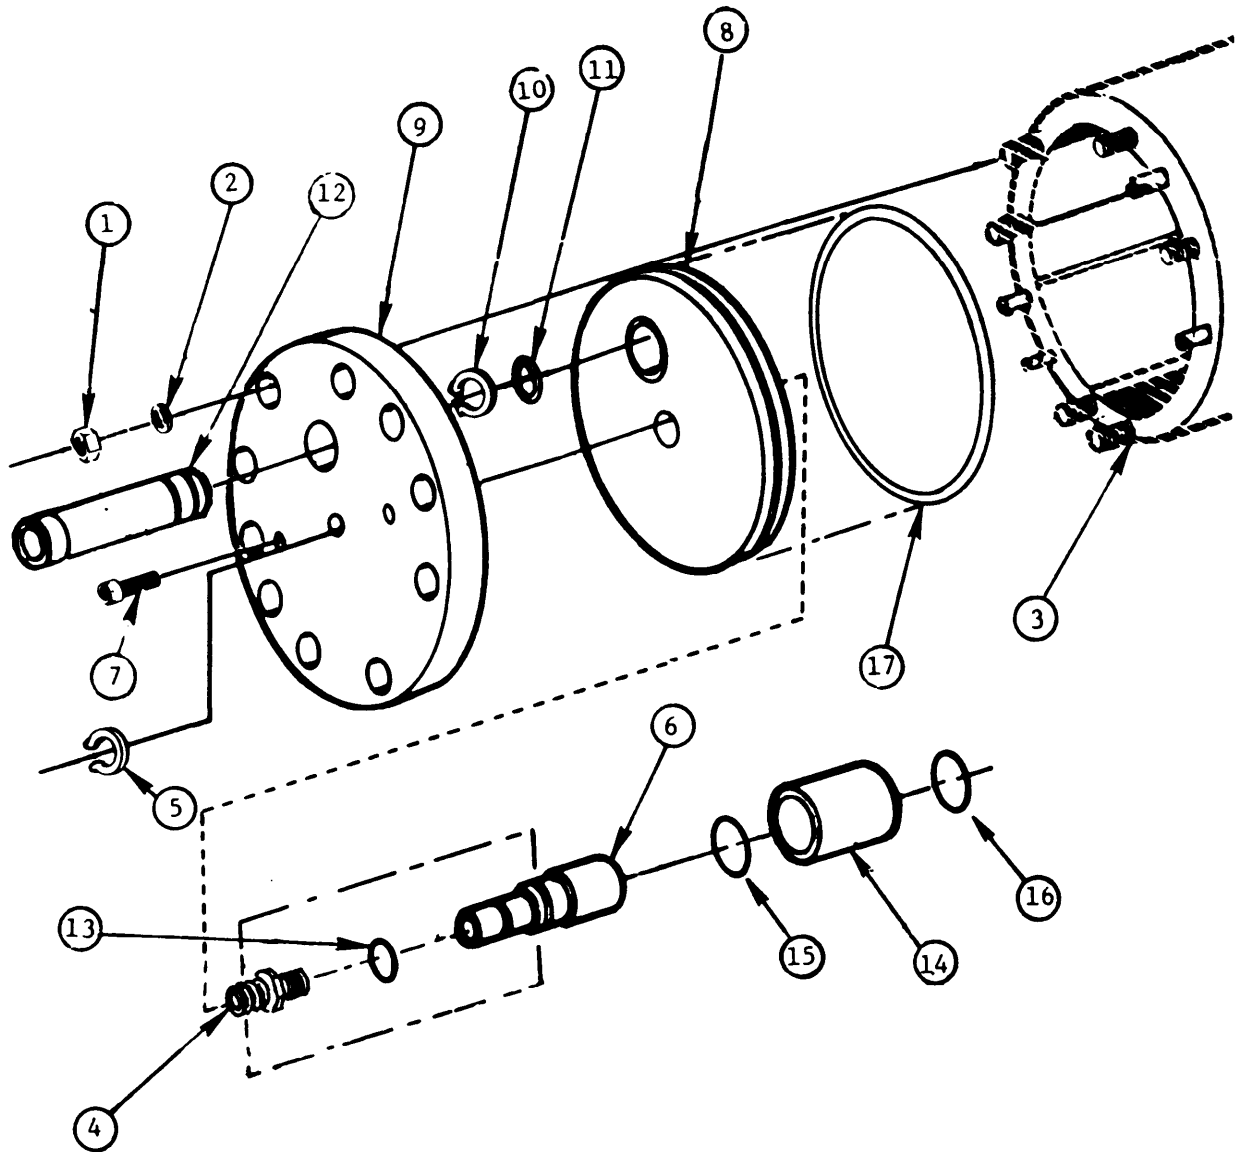

Figure 2-87. R.O. Vessel End Cap (USMC)
f. R.O. Vessel End Cap Removal, (Figure 2-87) (USMC)
- (1) Remove ten nuts (1) and lockwashers (2) from R.O. vessel studs (3).
- (2) Unscrew and remove hose adapter (4) and spring clip (5) from product water tube (6).
- (3) Unscrew Allen screws (7) from end plug (8) and end plate (9). Separate end plug (8) and end plate (9).
- (4) Remove spring clip (10) and O-ring (11) from feed port (12).
- (5) Remove feed port (12) from end plate (9).
- (6) Remove O-ring (13) from product water tube (6).
- (7) Remove product water tube (6) from end plug (8).
- (8) Remove end connector (14) from product water tube (6).
- (9) Install red O-ring (15) and yellow O-ring (16) in end connector (14).
- (10) Install end connector (14) on product water tube (6).
- (11) Align end cap as previously marked and install end plate (9) on studs (3) and secure using ten lockwashers (2) and ten nuts (1).
n. R.O. Vessel End Cap Assembly Installation. (Figure 2-87) (USMC)
- (1) Install O-ring (17) on end plug (8).